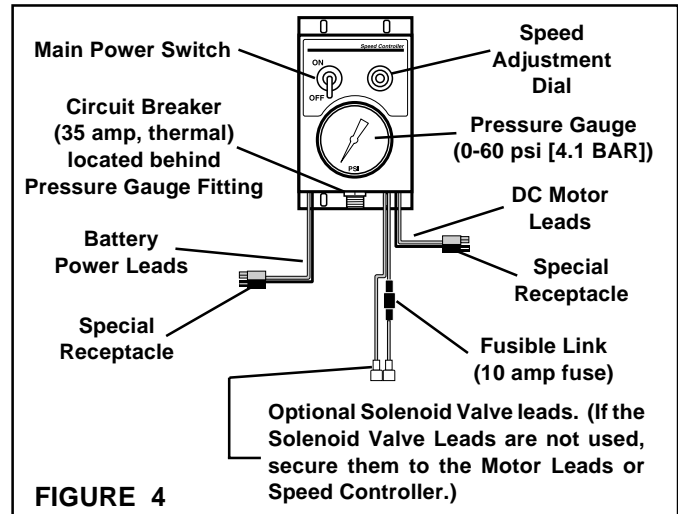

FIGURE 4
4. Set the Controller Main Power Switch to **OFF** (See Figure 4).